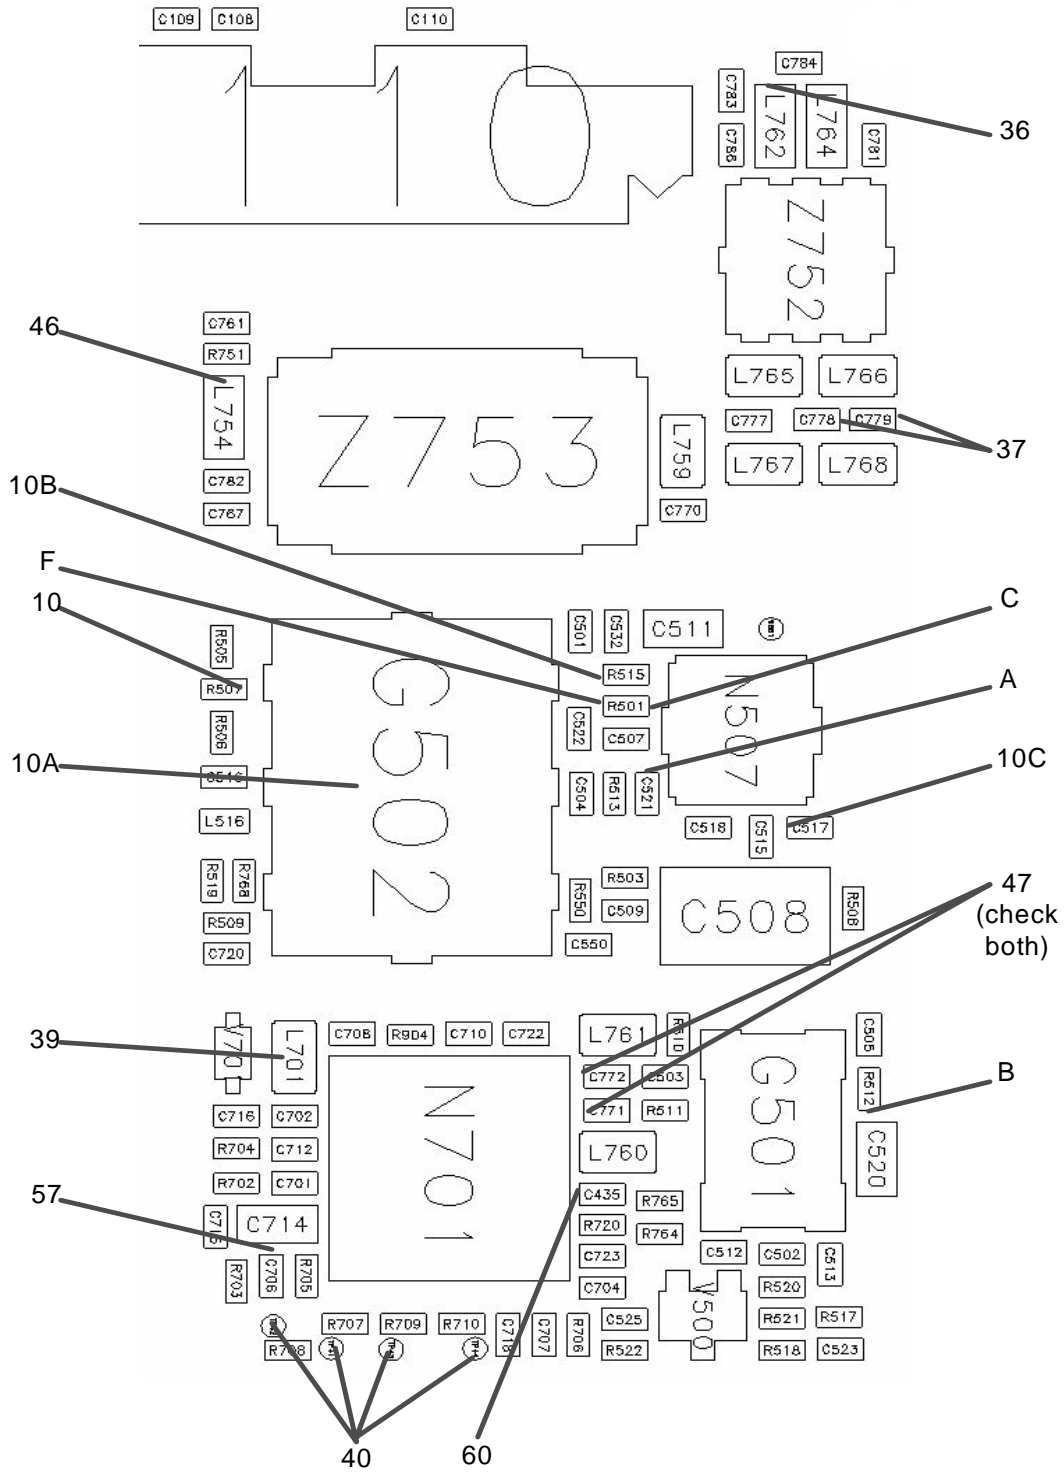

Figure 6: Probing diagram (RX IF components)
*In AMPS, ensure 230 mV on I,Q traces of Batman out, probing point 40 of Figure 6.*